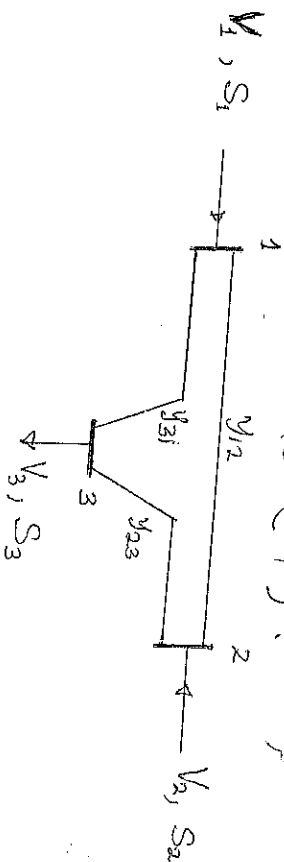

Fig. 1.10.10: 3-bus Interconnected System
Given a three-bus network as shown in Fig. 1.10.10, the nodal admittance matrix is as shown in equation (1). The expressions for calculating power (S) at each of the buses are as given in equations (2) to (4).
The bus admittance matrix of Fig. 1.10.10 is as given below: